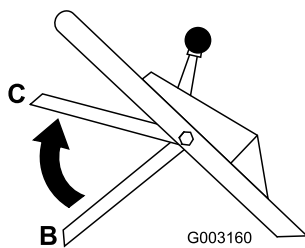

Figure 20
4. Bring the control bar up into the middle position about 5 inches (12.7 cm) below the handle cross bar (Position C in Figure 20).
5. Release the control bar (Position B in Figure 20).